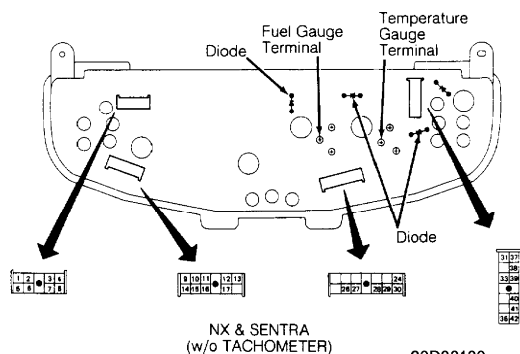

Fig. 3: Rear Views Of Combination Meters (W/O Tachometer)
Remove instrument cluster. Turn ignition on. Check voltage between ground and specified terminal of instrument cluster connector. See MAIN POWER SUPPLY TEST TERMINALS table. See Fig. 3 or 4. If battery voltage is not present, check for blown fuse, open fusible link, open in wiring harness, faulty ignition relay and/or faulty ignition switch.
Remove instrument cluster, leaving connectors attached. Turn ignition on. Connect a jumper wire between ground and fuel gauge terminal on back on instrument cluster for less than 10 seconds. See Fig. 3 or 4. If fuel gauge does not move smoothly from EMPTY to FULL, replace fuel gauge.
1) Remove instrument cluster, leaving connectors attached. Turn ignition on. Connect a jumper wire between ground and temperature gauge terminal on back of instrument cluster for less than 10 seconds. See Fig. 3 and 4.
Remove instrument cluster. Check continuity across diode in both directions (polarity). See Fig. 3 or 4. Diode is functioning properly if continuity exists in only one direction.